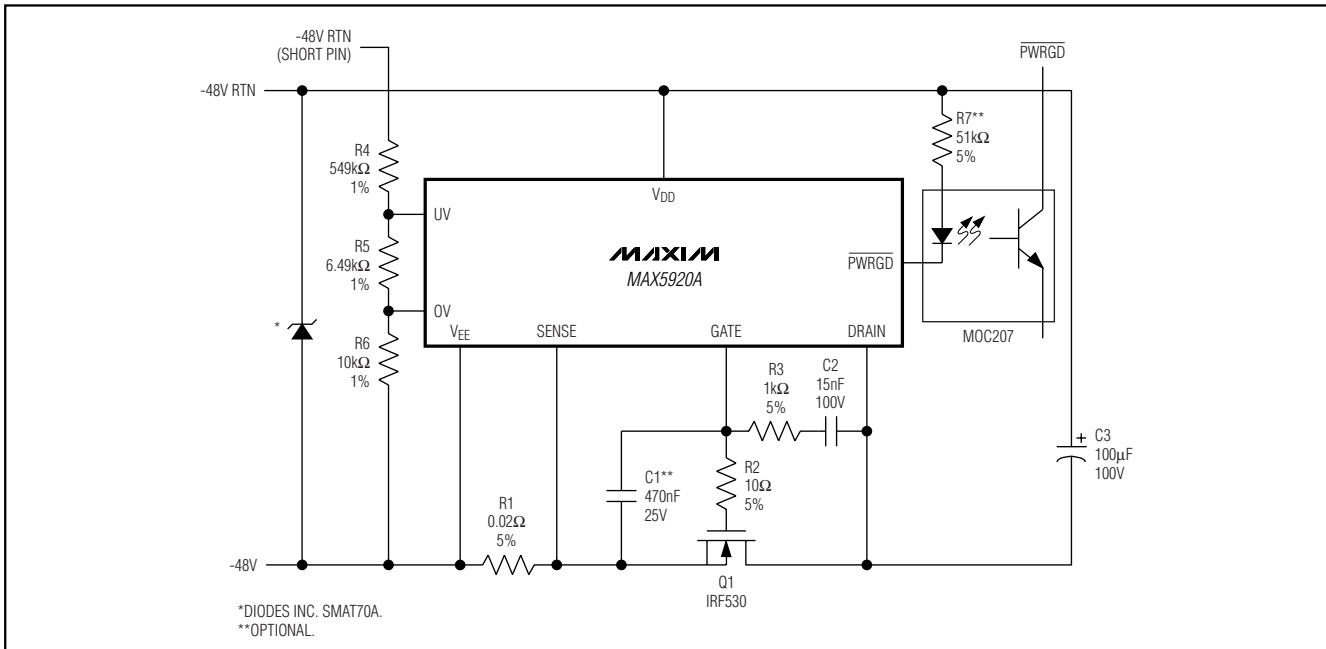

Figure 14. Using $\overline{\text{PWRGD}}$ to Drive an Optoisolator
The $\overline{\text{PWRGD}}$ signal can also be used to turn on an LED or optoisolator to indicate that the power is good (Figure 14) (see the *Component Selection Procedure* section).
- If an optocoupler is utilized as in Figure 14, determine the LED series resistor: